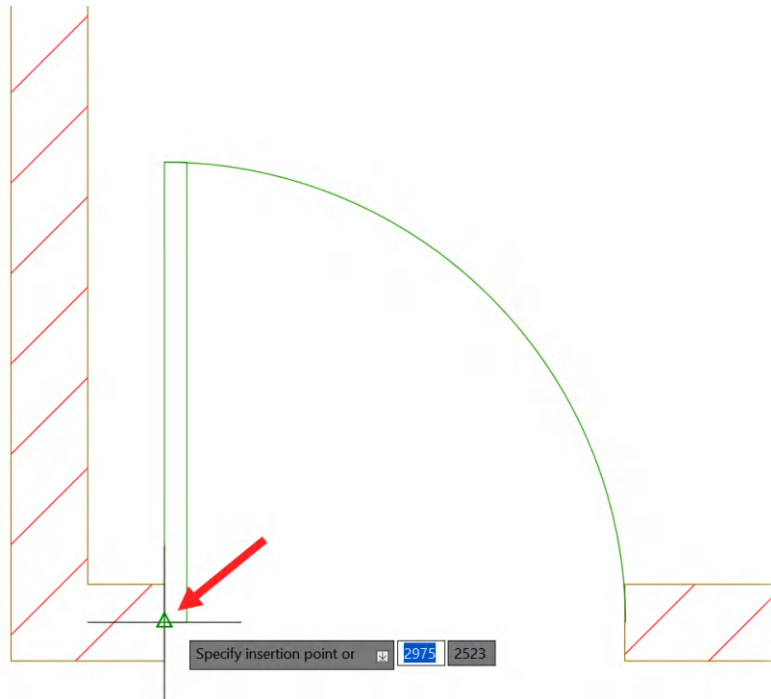

Figure 11.32: Using the Midpoint object snap to position the block
5. Position the block on the **Midpoint** object snap on the left-hand side of the door opening, as shown in *Figure 11.32*. Click on **Midpoint** to confirm the block position.